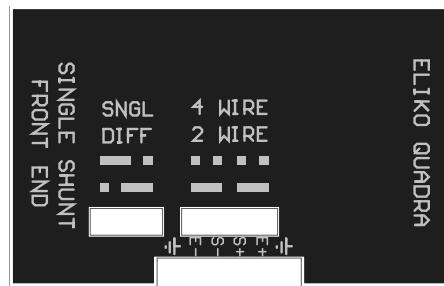

Figure 22 Single Shunt Front-End Top Cover
1. Attach the single shunt front-end to Quadra device front-end connector. The front-end (**Figure 22**) is included in the device box.